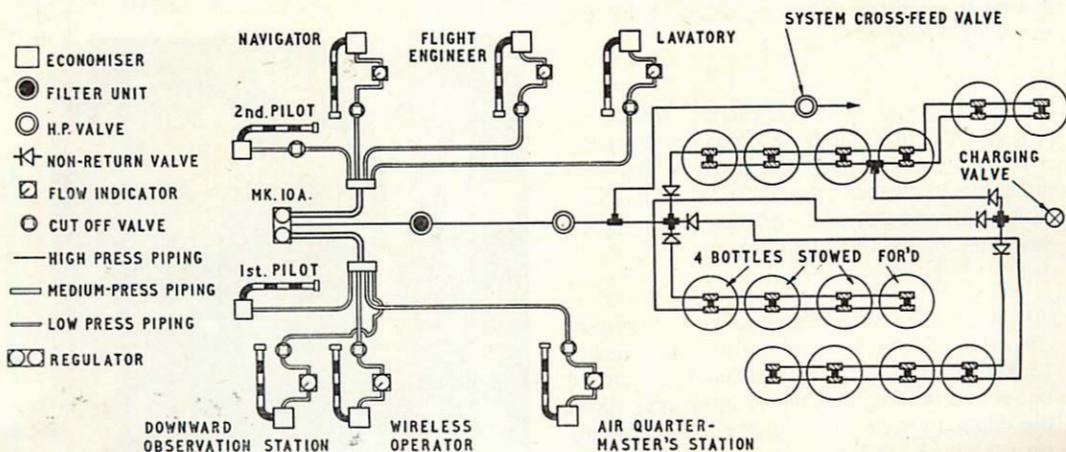
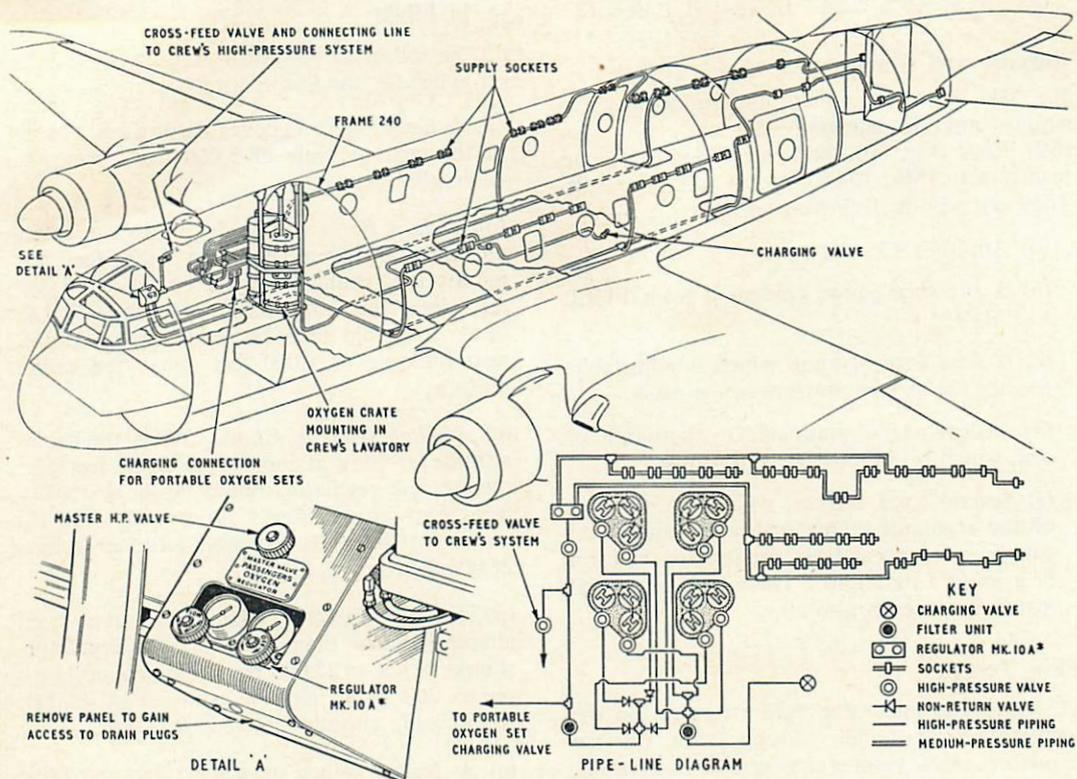

Fig. 5. Typical Oxygen System Incorporating Mk. 10A Regulator.
Fig. 6. Typical Oxygen System Incorporating Mk. 10A* Regulator.
10. Mk. 10 series regulators are designed to supply aircraft carrying up to eight men (Mk. 10A (Fig. 5)), and over eight and up to fifty men (Mk. 10A* (Fig. 6) and Mk. 10B). They embody the following components :—